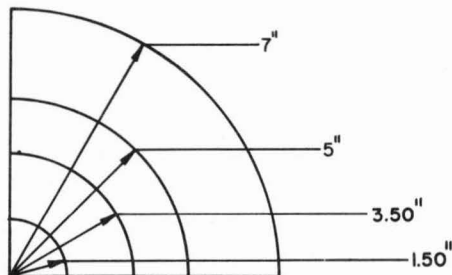
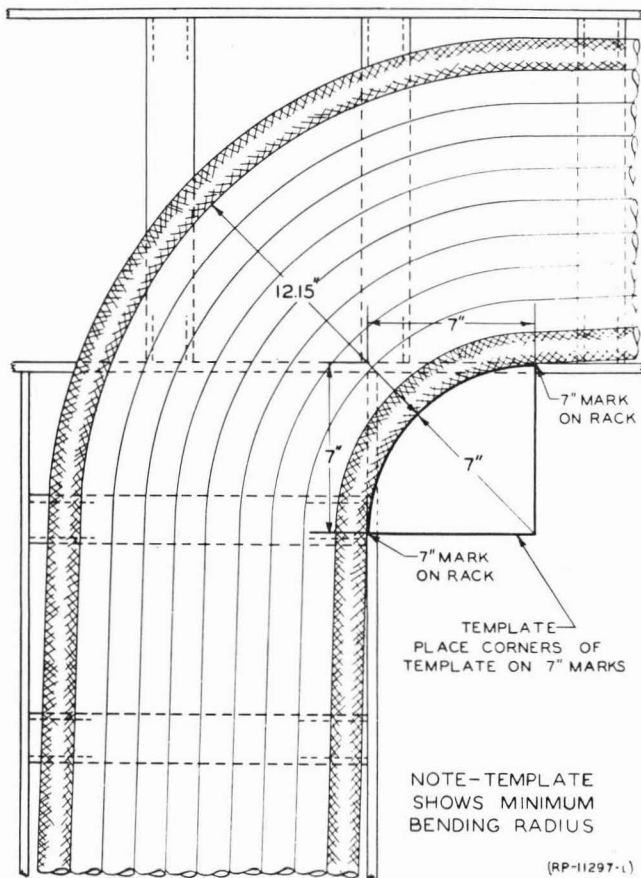

FIG. 10 TEMPLATE LAYOUT (PAR. 6.23)
FIG. 11 USING TEMPLATE TO CONTROL BENDING RADIUS (PAR. 6.23)
6.23 To aid in forming and placing the inside bend, a template may be made from a quadrant or corner of a piece of fiber, cardboard or similar insulating material. With a compass pivoting at the corner, scribe arcs equal to the minimum bending radii. Refer to Figure 10. Bend the inside wire of a run (or the wire having the sharpest bend) to conform to, or fall outside of, the curvature of the template. Refer to Figure 11.